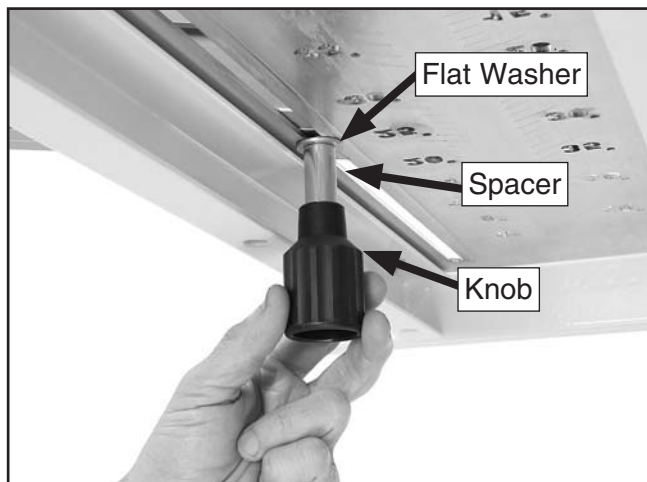

Figure 31. Crosscut fence knob.
- 27. Thread the M8-1.25 knob with an 8mm flat washer onto the T-bolt to secure the crosscut fence (**Figure 31**).